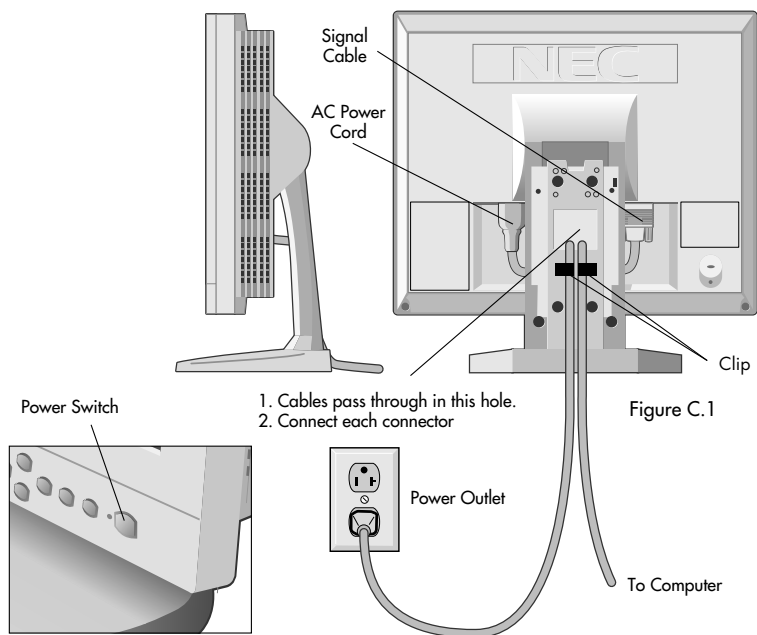

Figure C.1
3. Connect the 15-pin mini D-SUB of the video signal cable to the appropriate connector on the back of the monitor (**Figure C.1**).
4. Connect one end of the power cord to the MultiSync LCD Series monitor and the other end to the power outlet. Place the Video Signal Cable and AC power cord under Clips (**Figure C.1**). Replace connector cover and cable cover. (**Figure E.1**)